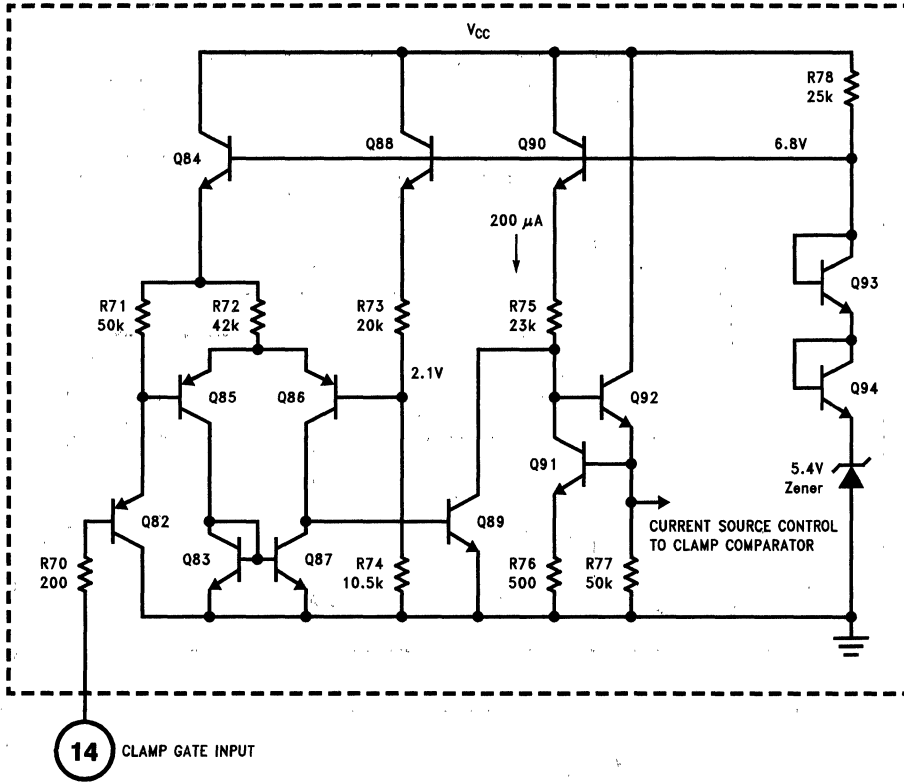
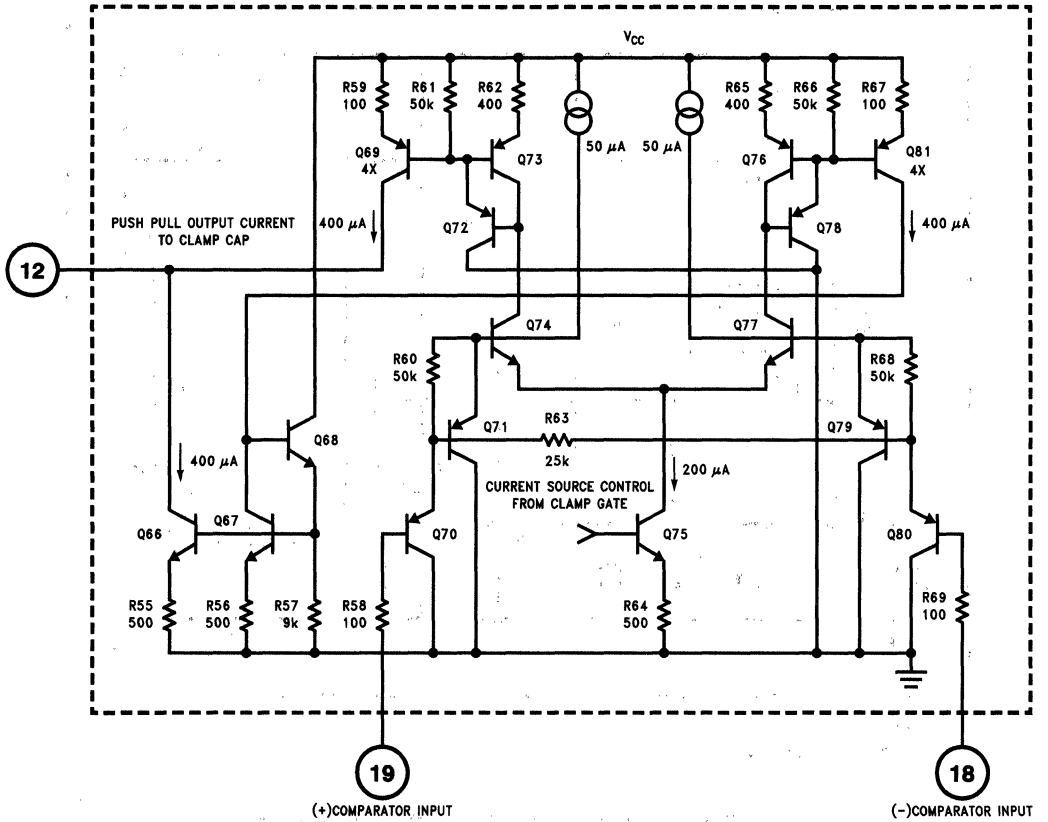

FIGURE 7. Simplified Schematic of the LM1202 Clamp Gate Circuit
FIGURE 8. Simplified Schematic of the LM1202 Clamp Comparator Circuit
*Figures 7 and 8* show simplified schematics of the clamp gate and clamp comparator circuits. The clamp gate circuit (*Figure 7*) consists of a PNP input buffer transistor (Q82), a PNP emitter coupled pair (Q85 and Q86) referenced on one side to 2.1V and an output switch transistor Q89. When the clamp gate input at pin 14 is high ( $> 1.5V$ ) the Q89 switch is on and shunts the 200  $\mu A$  current from current source Q90 to ground. When pin 14 is low ( $< 1.3V$ ) the Q89 switch is off and the 200  $\mu A$  current is mirrored by the current mirror comprised of Q91 and Q75 (see *Figure 8*). Consequently the clamp comparator comprised of the differential pair Q74 and Q77 is enabled. The input of the clamp comparator is similar to the clamp gate except that an NPN emitter coupled pair is used to control the current that will charge or discharge the clamp capacitor externally connected from pin 12 to ground. PNP transistors are used at the inputs because they offer a number of advantages over NPNs. PNP's will operate with base voltages at or near ground and will usually have a greater emitter base breakdown voltage (BVebo). Because the differential input voltage to the clamp comparator during the video scan period could be greater than the BVebo of NPN transistors, a resistor (R63) with a value one half that of R60 or R68 is connected between the bases of Q71 and Q79. The clamp comparator's common mode range is from ground to approximately 9V and the maximum differential input voltage is  $V_{CC}$ .